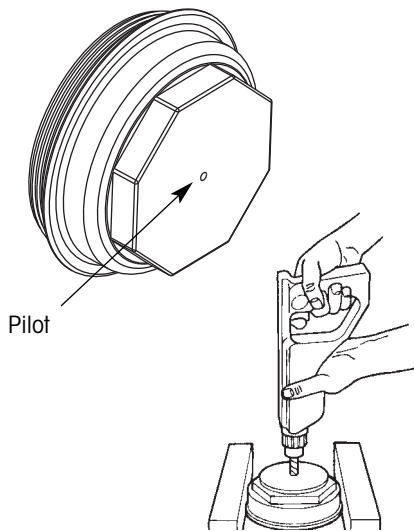

Figure 20. Preparing for hubdometer installation
2. Using the pilot in the center of the hubcap (figure 20), drill a $\frac{9}{16}$ -in. hole through the hubcap. Remove all drilling residue from the hubcap.